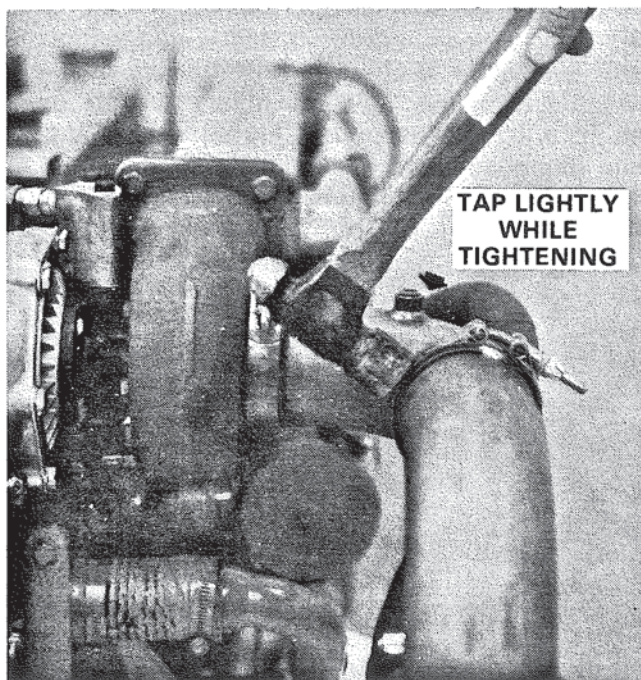

Figure 38. Tightening Clamps.
6. Seat "V" band clamp on exhaust elbow by tapping lightly with a small hammer while tightening. Figure 38.